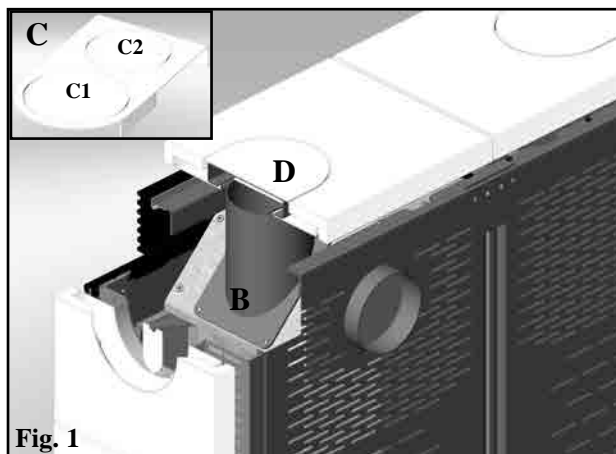

Fig. 1
In order to connect the pipe (not supplied) simply fit it onto the elbow joint (G-fig.5) which is already mounted on the stove and accessible by opening the righthand glass door (fig. 5). An inspection lid for cleaning (H) is located on the elbow joint (G). When using the top outlet you must use the pre-cut lid (C - fig. 1 on page 39) by removing the diaphragm C2, in place of the uncut lid (D - fig. 1 on page 39).